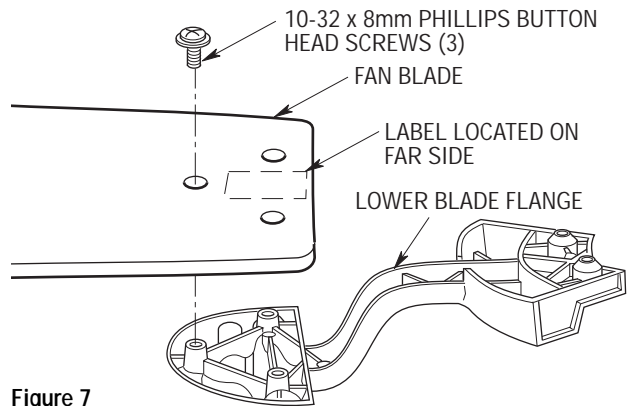

Figure 7
11. Use three 10-32 x 8mm slotted Phillips button head screws to secure the fan blade to the lower blade flange (Figure 7). (Refer to IMPORTANT note above step 10.) Repeat the procedure for the remaining four lower blades.